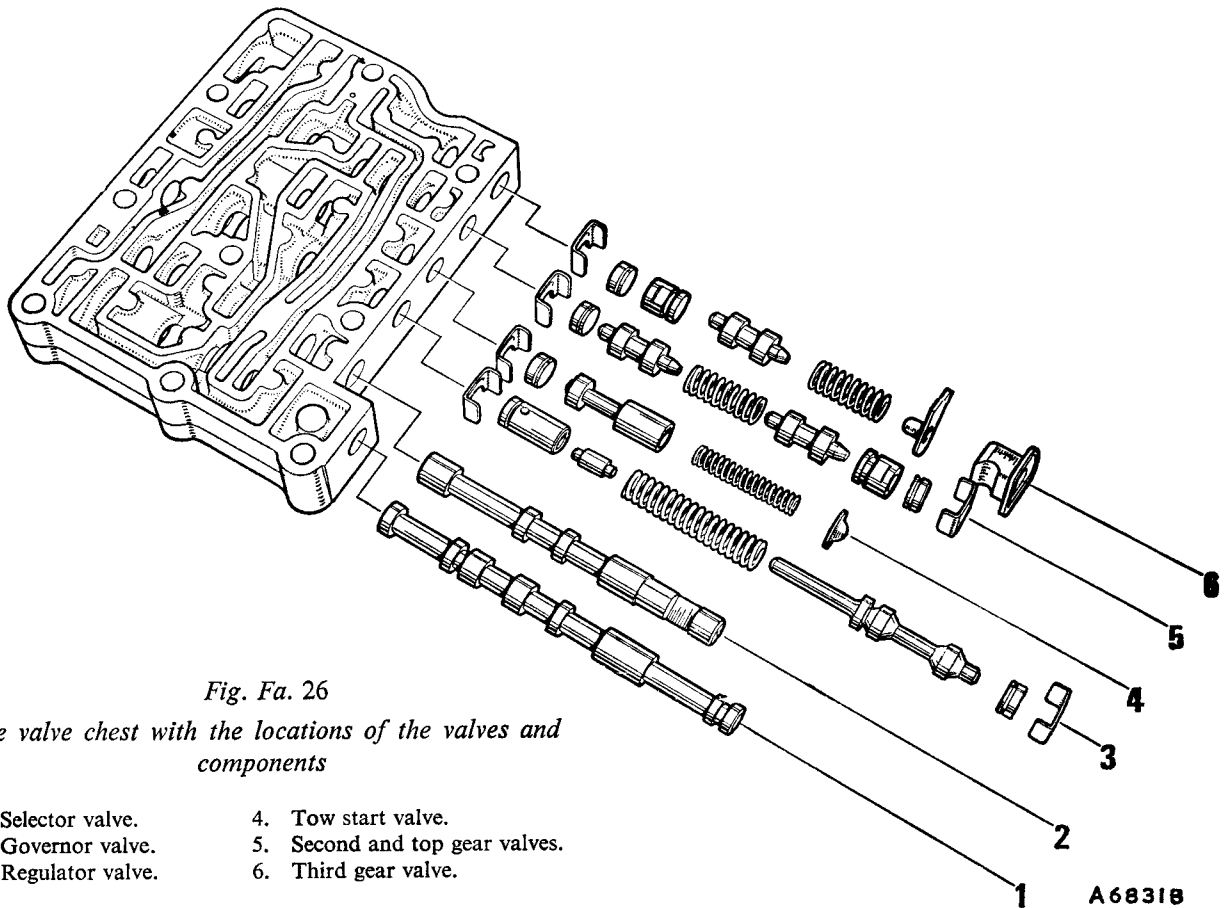

Fig. Fa. 26
- (20) Reassemble each valve assembly in the reverse order of dismantling (see Fig. Fa.26). Check that the 'C' clips and plugs are correctly located in the valve chest (see Fig. Fa.27).